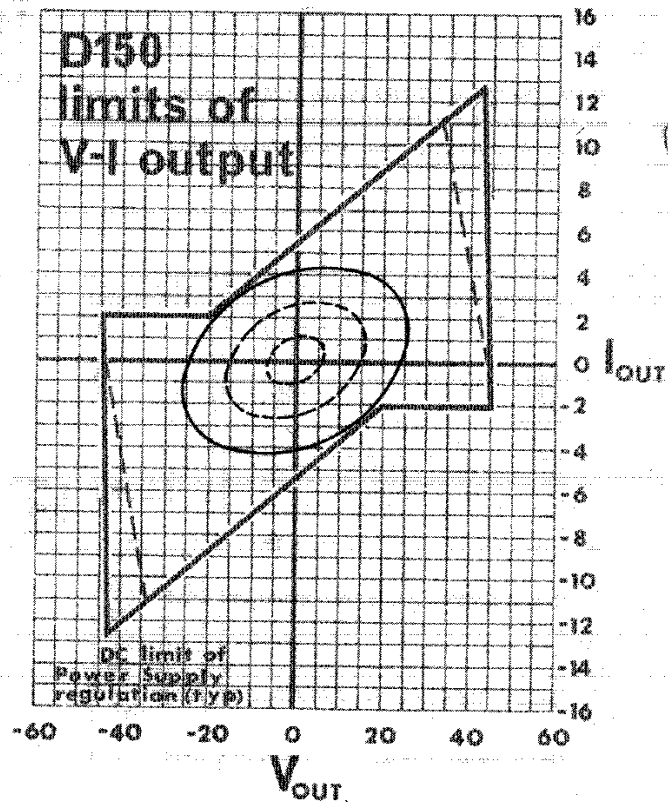

FIGURE 3-3.
The area in which the amplifier will drive the load without being V-I limited is depicted by the cross-hatched areas of Figure 3-3.
If a load initiates protection in the amplifier, it can be detected generally by watching the transfer characteristics of the amplifier on an oscilloscope or by plotting the load's V-I behavior, if known, on to Figure 3.3. In applications where the load is a loudspeaker, amplifier protection will be evidenced by distortion in the speaker. The audible effect ranges from something resembling cross-overmodulation distortion to a snapping sound, depending on the overall load characteristics. Speaker systems which are truly 8 ohms or greater will not initiate the protection system.
3. Never drive a transformer-coupled device or any other device which appears as a low frequency short (less than 3 ohm) without a series isolating capacitor. Such operations may damage the device and/or needlessly activate the V-I limiting (see Figure 3-3).